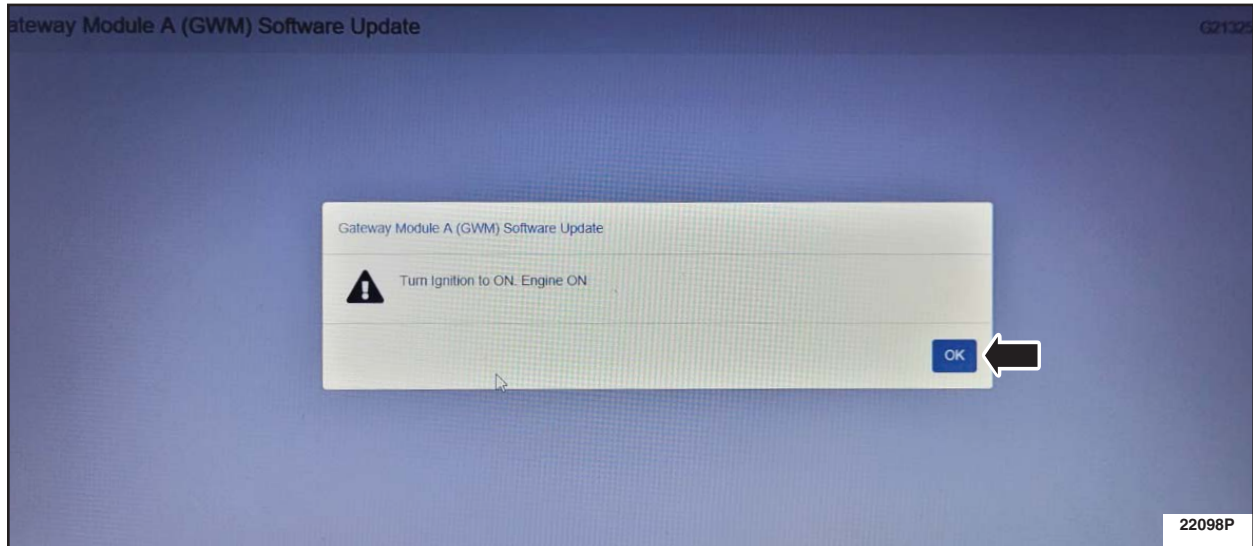

FIGURE 11
14. Cycle the ignition to the ignition on engine on position and click the OK icon. See Figure 11.